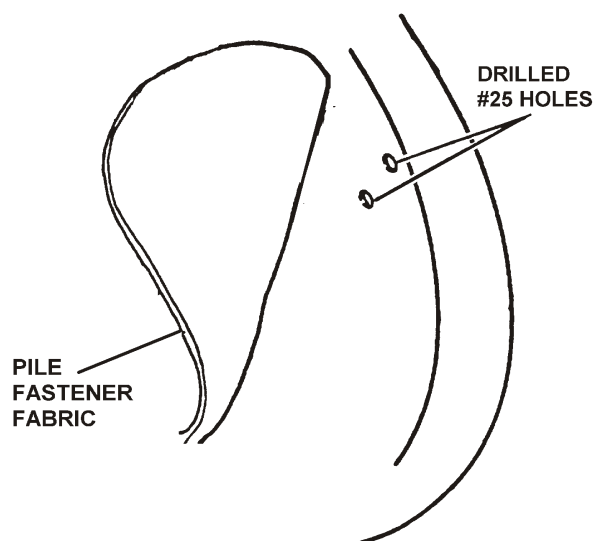

Figure 2-10. Earcup Pile Fastener Pulled Back
6. Remove the earcup assembly on one side. Referring to Figure 2-10, pull back the earcup pile fastener fabric inside the helmet shell on the same side. Using a #25 drill bit, drill the marked hole locations. Repeat for the other side.